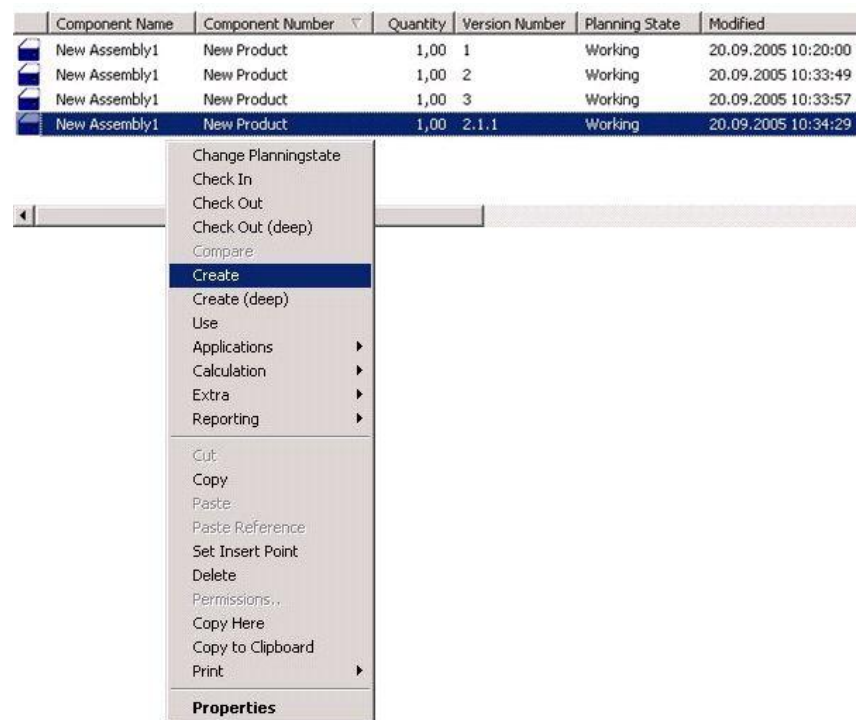

Figure 197: Context Menu for Versioning
- 2) Select the entry from which you want to create a succeeding version and call the context menu of the required object by a right click of your mouse. The following context menus must be considered (*Please refer to the Figure 197*).